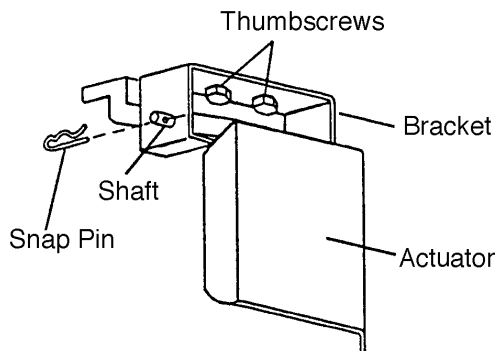

Fig. 8
- 5) Remove the bin control bracket assembly. See Fig. 8.